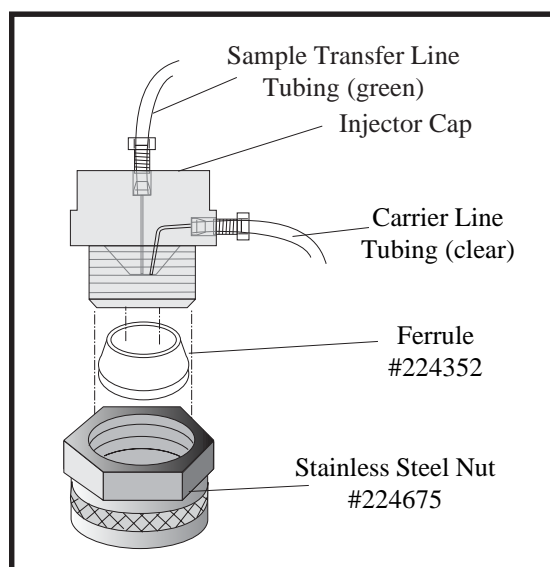

Figure 6.6. Injector Cap Assembly
4. Disconnect the green sample transfer tubing from the top of the injector cap assembly. See Figure 6.6.